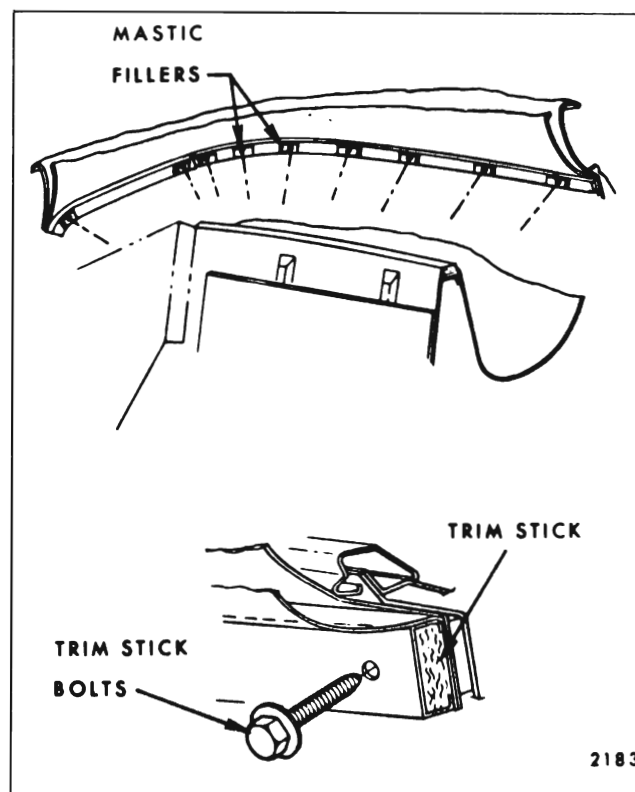

Fig. 13-55 — Checking Trim Stick Fillers
9. Inspect mastic type trim stick fillers at body below pinchweld for sufficient seal at bolt holes (Fig. 13-55).